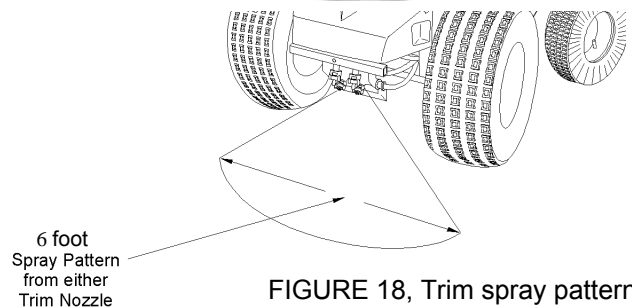

FIGURE 18, Trim spray pattern
- Spray for 15 seconds until the spray pattern is visible on the surface. The spray pattern should resemble the 6-foot spray pattern in FIGURE 18. Adjust as follows: